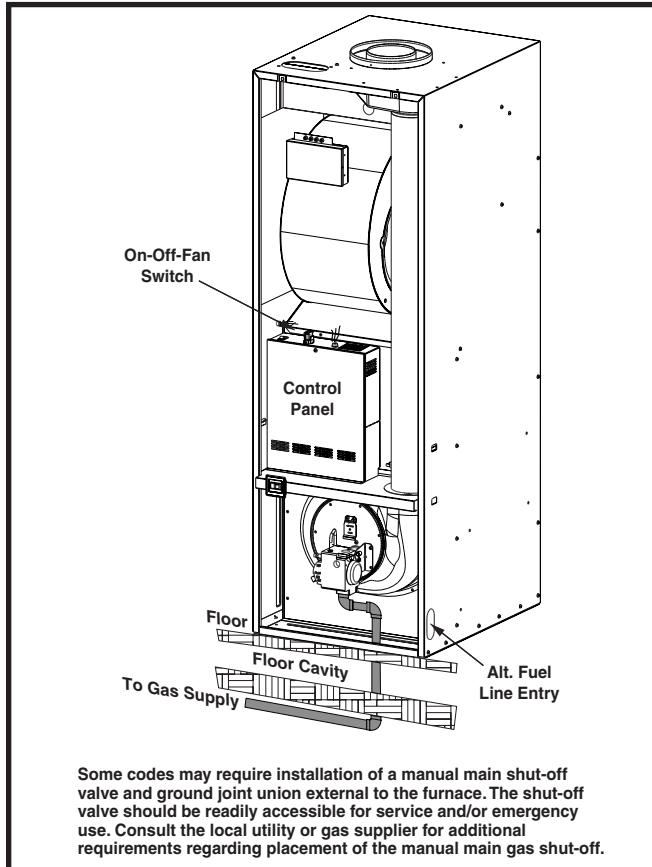

Figure 2. MG1 Gas Furnace Components
7. Set the gas valve ON/OFF knob / switch to the OFF position. See Figure 2 for gas valve type and knob / switch location.
The furnace components shown in Figure 2 will help identify and locate various parts of the furnace. The component you need to familiarize yourself with is the gas valve. You will use this to turn the furnace on and off. There are no user serviceable parts. All repairs must be done by a licensed HVAC technician.